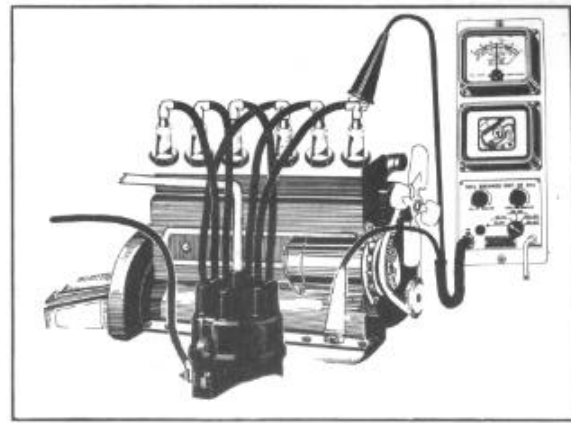

FIGURE 18
1. Connect test leads of the coil breaker unit shown in Figure 18.